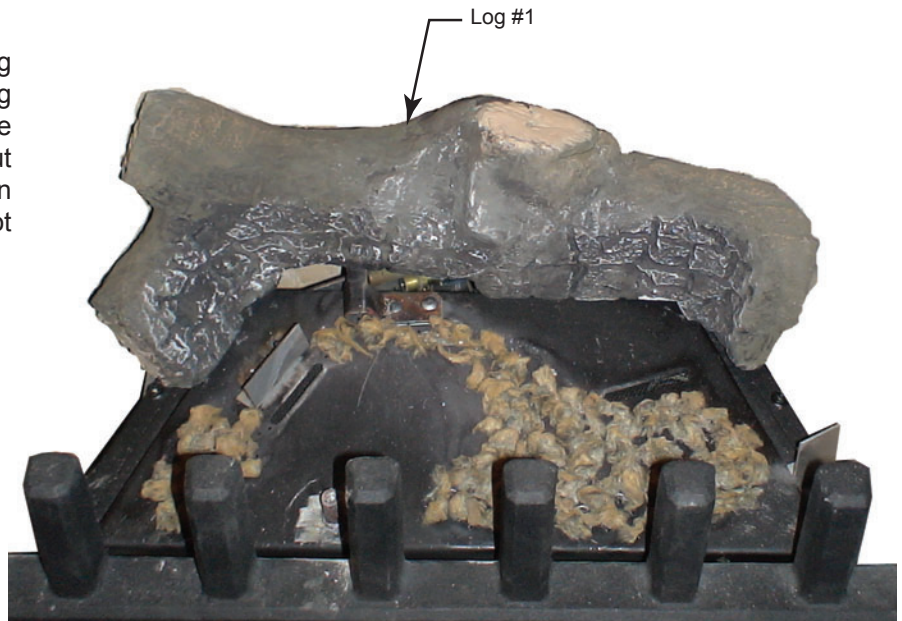

**Figure 18 -
1. Place dime sized pieces of rock wool evenly over small burner ports starting at pilot and down each side of burner. Avoid placing rock wool on slots on either side of burner. *Figure 18*. Wash hands after placing rock wool. Skin irritation may occur.